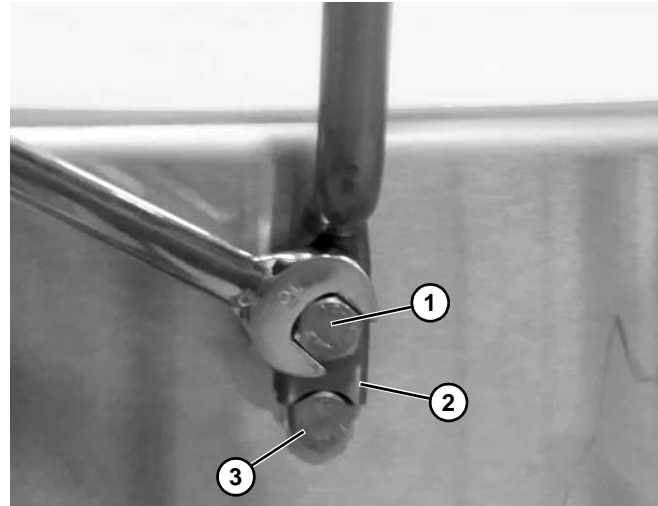

Figure 37
1. Remove the top screw (**Figure 37, item 1**).
2. Install the guide post (**Figure 37, item 2**) resting on lower screw (**Figure 37, item 3**). Reinstall top screw and tighten.